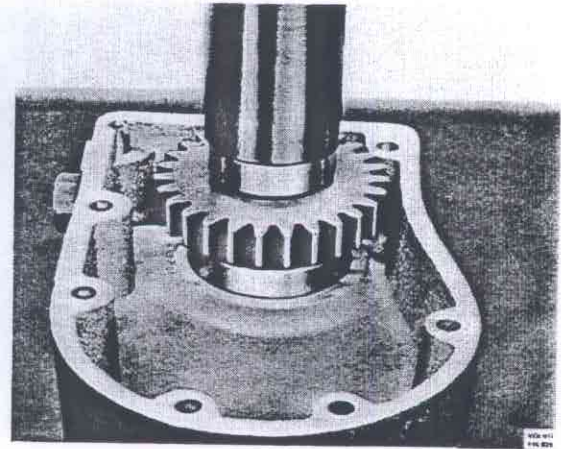

Fig. 48-30. Pressing on the shaft
6. Press the output shaft into the housing, see Fig. 48-30.